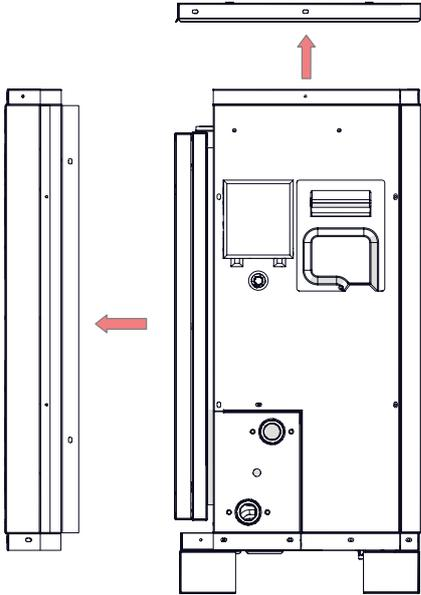

Figure 5-16 - Disassembly the upper and front cover
- 2.- Remove the upper and the front cover, as in Figure 5-16, thus accessing the internal components;